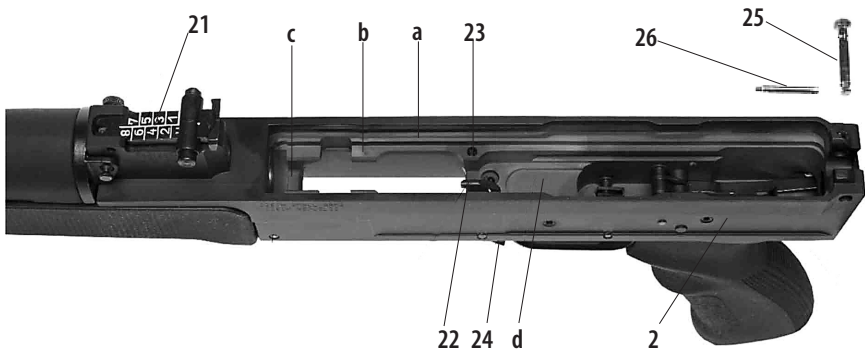

Fig. 8 *The receiver assembly /top view/*
The receiver (Fig. 8) is one of the main parts of the rifle; it joins the other rifle parts together as a whole and guides the bolt. It consists of the receiver proper 2, rear sight assembly 21, ejector 22, bolt catch 23, magazine catch 24, receiver cover pin 25 and receiver cover pin safety pin 26.
**Ejector 22** (Fig. 8) is placed in the grooves in the upper part of the bridge. The ejector is locked against shifting out by means of the dimple. The face surface of the ejector is chamfered so as to ensure that the contact of the ejector with the base of the cartridge case is almost one-point and on the left of the vertical axis of the firing pin when the cartridge is ejected. This guarantees that the direction of the ejection of the cartridge case ejected from the rifle is correct, i.e. upwards and to the right.
In the bottom of the receiver are two rectangular openings. The trigger passes in to the first one while the other is designed for seating the shaped nut of the grip screw. **Trigger guard 28** is riveted to the bottom of the receiver. The rear wall of the receiver is provided with a thread for fixing the stock to the receiver's rear face and additionally with a groove for fixing the return mechanism. The position of the stepped return mechanism is locked by receiver cover pin 25 (Fig. 8) which is kept in position by the force of receiver cover safety pin 26 which presses against the two circumferential grooves of the receiver cover pin. Receiver cover safety pin 26 is mounted vertically in the wall of the receiver rear right-hand corner and is pushed by the rear arm of the trigger mechanism feather.
**Return mechanism base 38** unites all the parts of the return mechanism in order to form one unit. The base is riveted with receiver cover 381. The base is formed by a plate to which return spring guide 385 and striker spring guide 383 are fixed. In the rear wall of the base is a projection by means of which the return mechanism base is positioned in the recess in the rear part of the receiver. In order to prevent the receiver from falling out, the base is locked by receiver cover pin 26 (Fig.8).